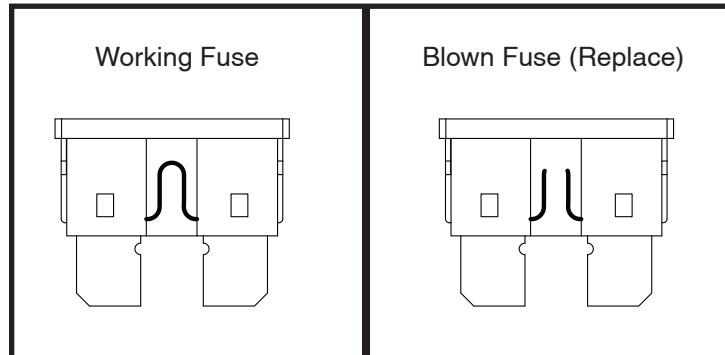

Figure 25. Fuse Replacement
2. Examine the fuse to be sure it is blown. See figure 25.